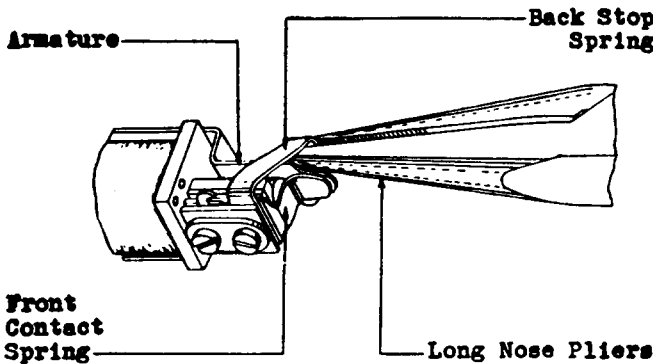

Fig. 7 - Method of Adjusting for Contact Separation of 194-type Relays
(8) **194-type Relays:** If the contact separation is unsatisfactory, adjust the backstop as required with the long-nose pliers as shown in Fig. 7.